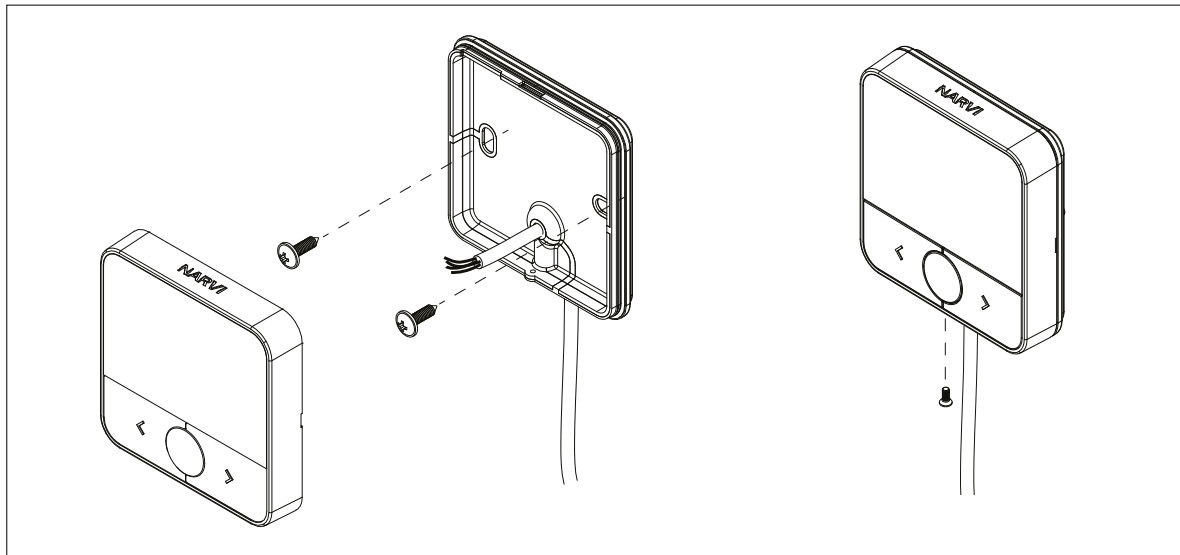

Figure 8. Installation of the control unit casing
- The back panel of the control unit is attached to the wooden surface of the wall with screws provided with the control unit (2 pcs Ø 4,2 x 13). The screw is threaded through the oval-shaped soft part (Figure 8). Screws should not be over-tightened to avoid damaging the plastic of the control unit. For other surface materials or when attaching to a box, the fastening materials